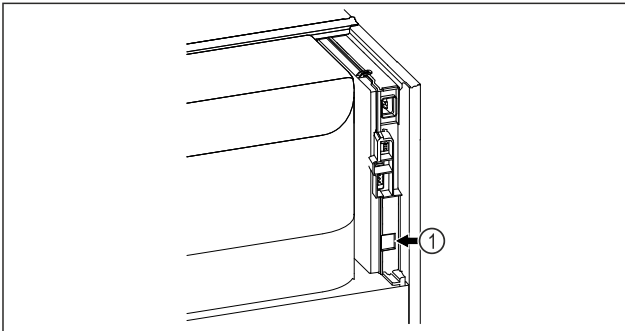

Fig. 99
- SmartModule Fig. 99 (1) is in use.